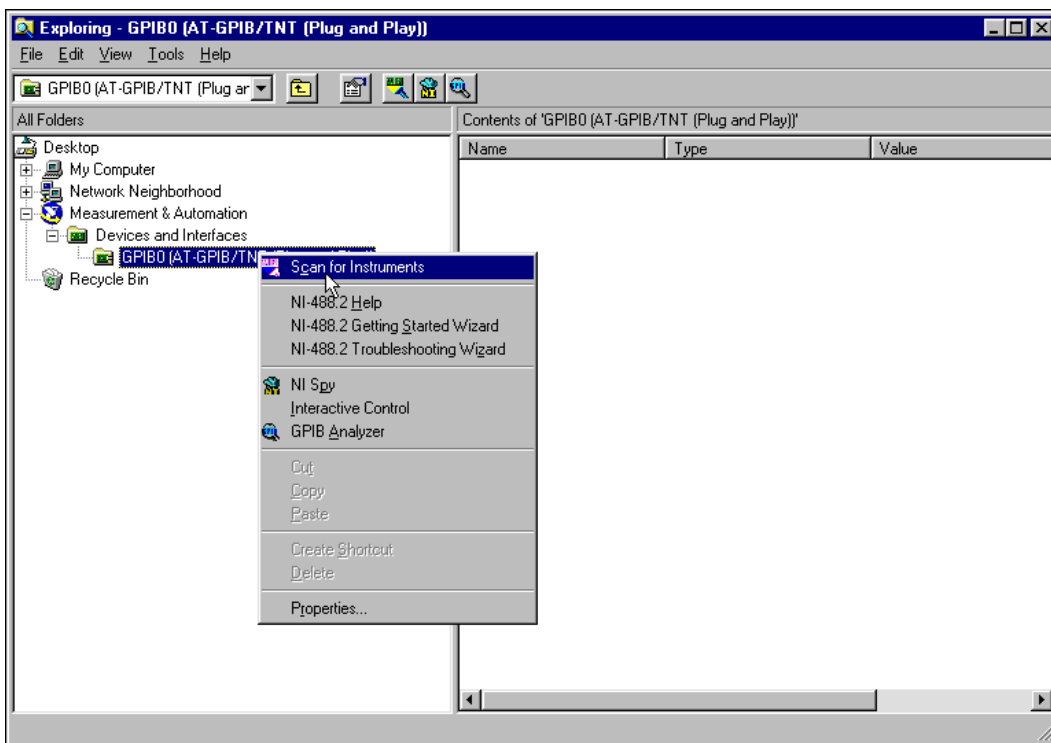

Figure 2-6. Select Scan for Instruments
2. Select the GPIB interface under **Devices and Interfaces** in the left window frame of Measurement & Automation Explorer, right-click, and choose **Scan for Instruments**, as shown in Figure 2-6.